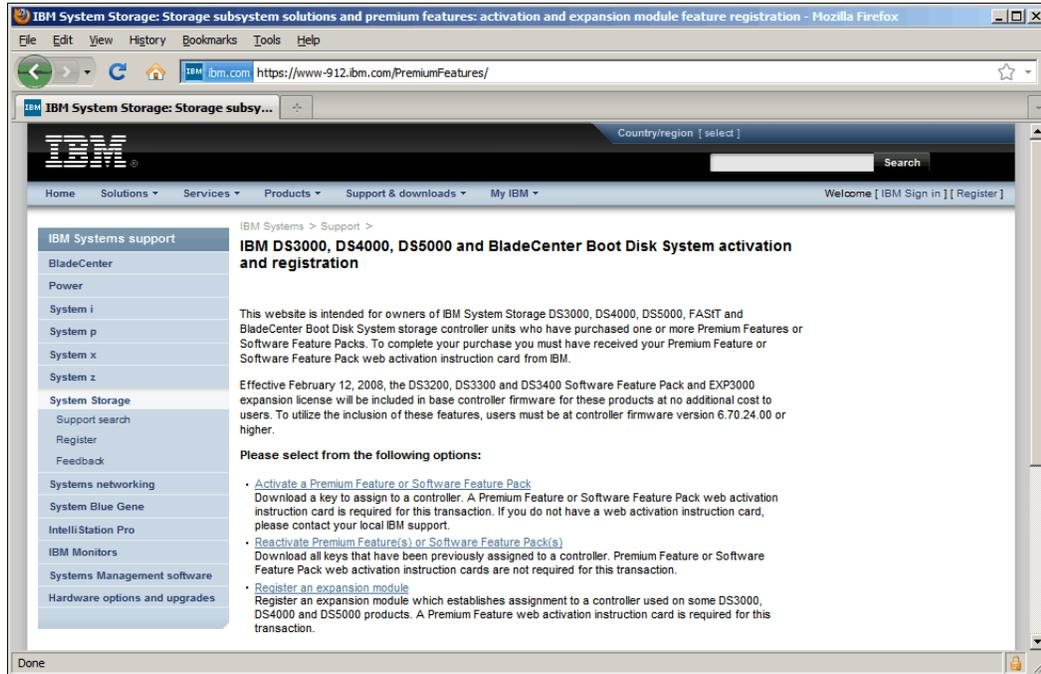

Figure 1-2 Premium features website
1. With the feature enable identifier and the registration card provided with the machine for the premium feature purchased, go to the following website (shown in Figure 1-2):